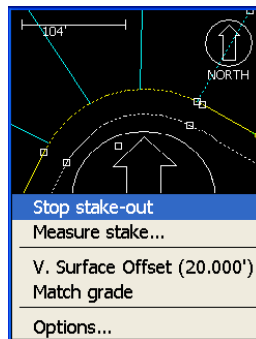

Figure 7-6. Stop Stake-out
8. When finished with the Surface check, press **Survey ▶ Stake-out ▶ Stop stake-out** (Figure 7-6).